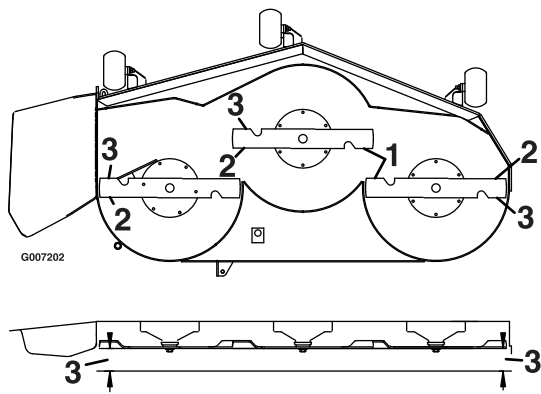

Figure 62
4. Measure between the outside cutting edges and the flat surface (Figure 62).